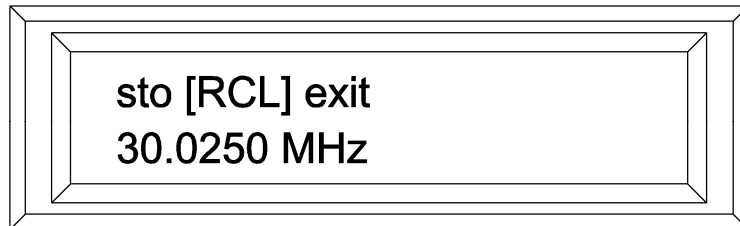

Figure 3.12. Selecting the recall function in the mem submenu.
- Step 4.** Select the **rcl** (recall) function by pressing the “▲” button once (*figure 3.12*).